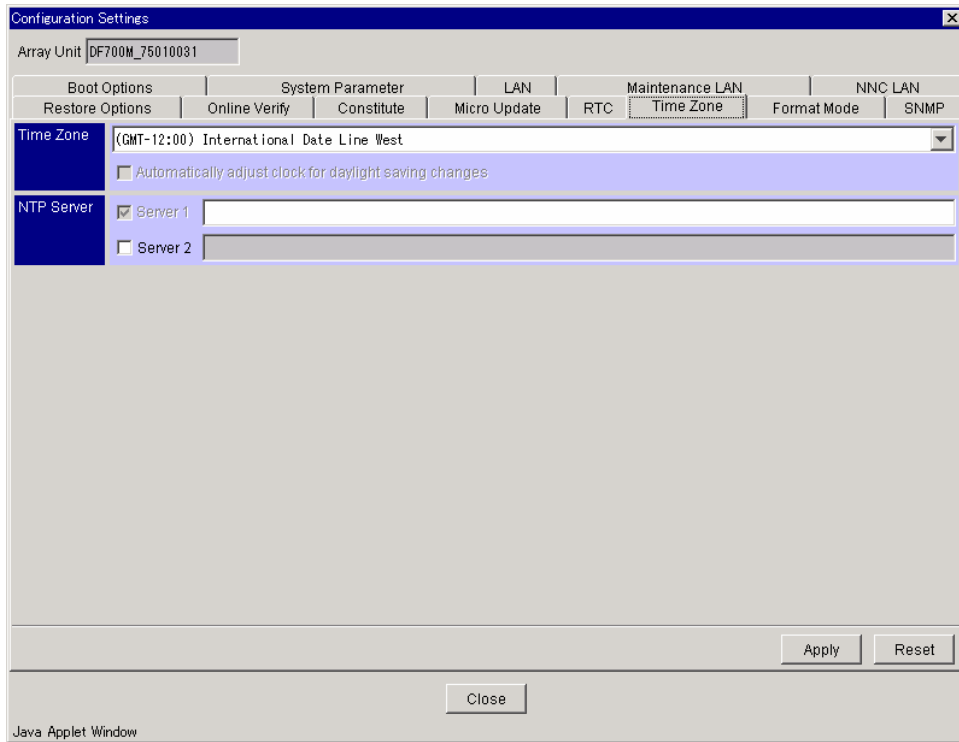

Figure 9.19 Configuration Settings - Time Zone
2. Click the **Time Zone** tab. See Figure 9.19.